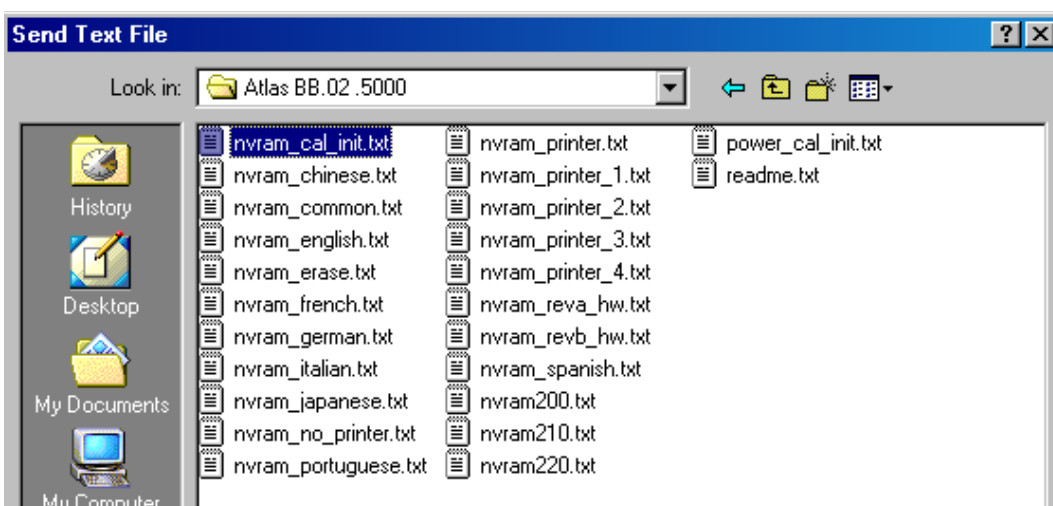

Figure 2-10. Choosing the nvr_{am}_cal_init.txt file.
- Once the folder is open, open the file “**nvr_{am}_cal_init.txt**” file by double left clicking on that file or by high lighting the file and then click on the **Open** button. See example in Figure 2-10.